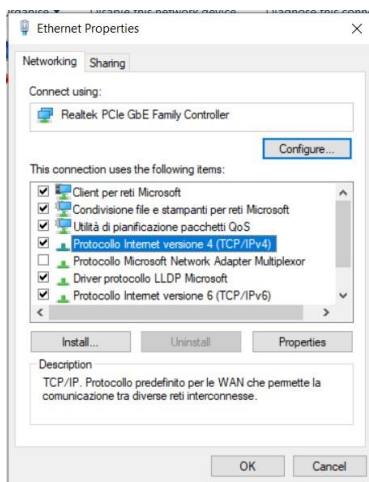
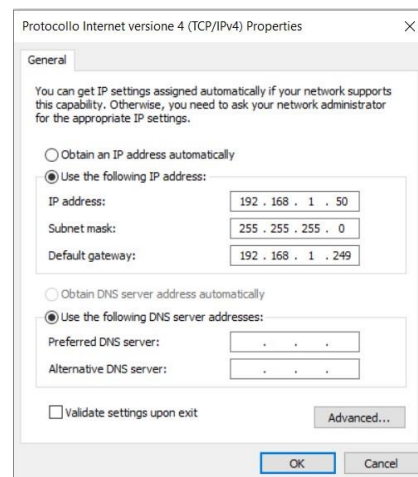

Fig. 13
Fig. 14
7. From the Ethernet properties menu (Fig.13), select "Internet Protocol version 4 (TCP/IPv4)" and press the properties button. The following screen will open (Fig.14).